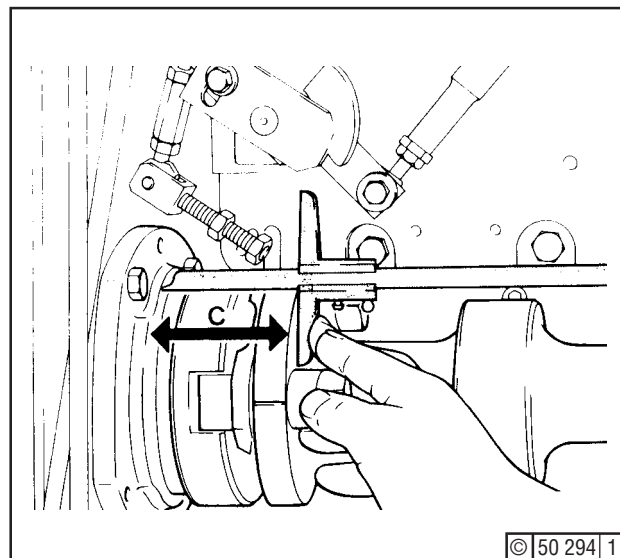

Fig. 7
- Gauge in each end position - Fig. 7. Clearance = maximum dimension "C" minus minimum dimension "C".